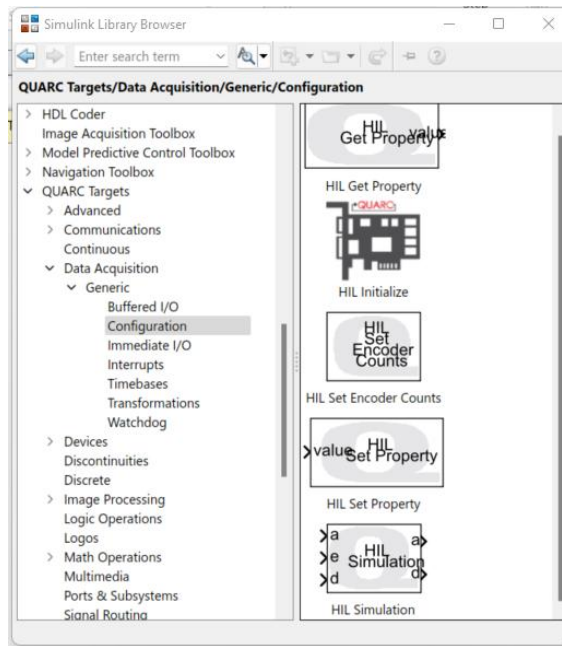

Figure 2: Simulink Library Browser QUARC Target Configuration Blocks
- Expand the *QUARC Targets* item and go to the Data Acquisition | Generic | Configuration folder, as shown in Figure 2.